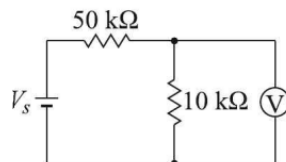

Fig. 2.20
- (h) A voltmeter connected across the $10\ \text{k}\Omega$ resistor in Fig. 2.20 reads $5\ \text{V}$. The voltmeter is rated at $1000\ \text{ohms/volt}$ and has a full scale reading of $10\ \text{V}$.